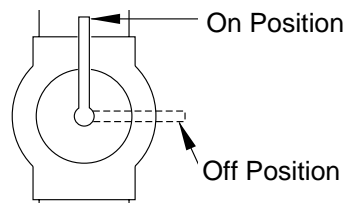

Figure 8 - Manual Shutoff Valve
1. Close manual shutoff valve (see Figure 8).
1. Open manual shutoff valve (see Figure 8).